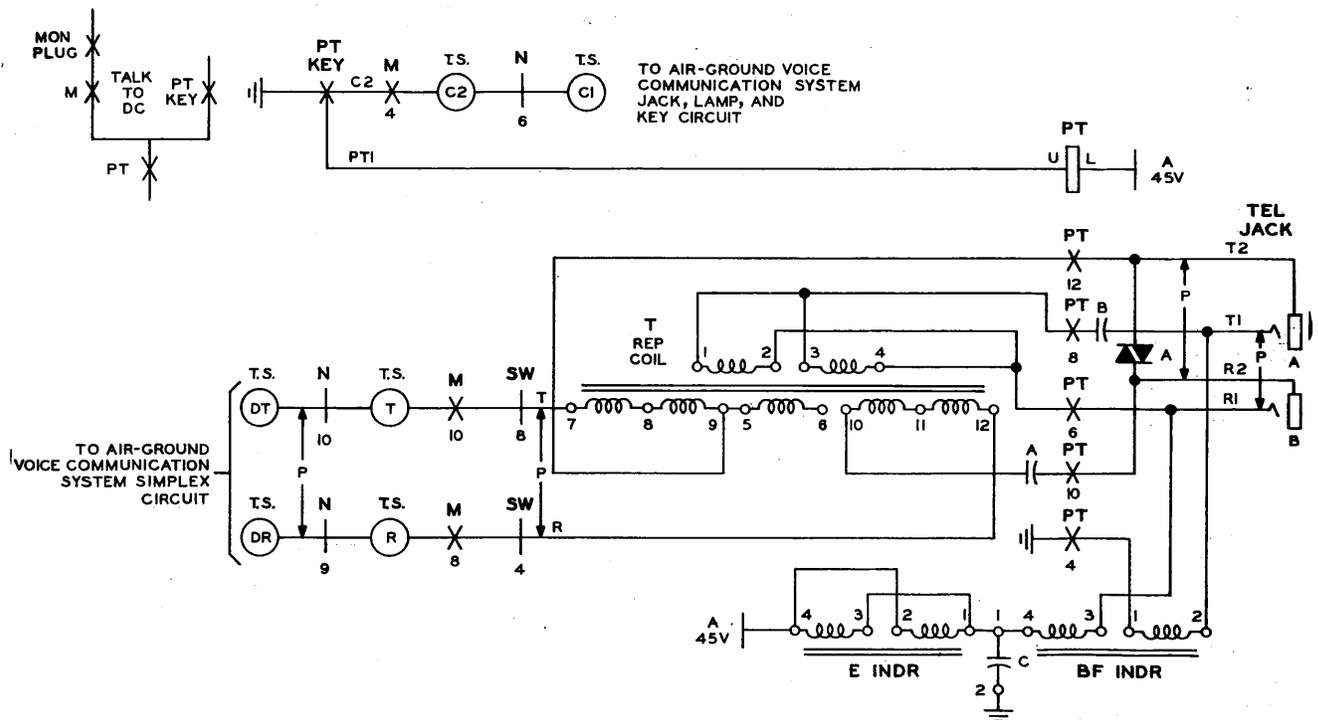

FIG. 7—TALK TO DIRECTION CENTER WITH MONITOR CORD
3.19 The *PT* key in the TALK TO DC position (Fig. 7) connects ground to the following: